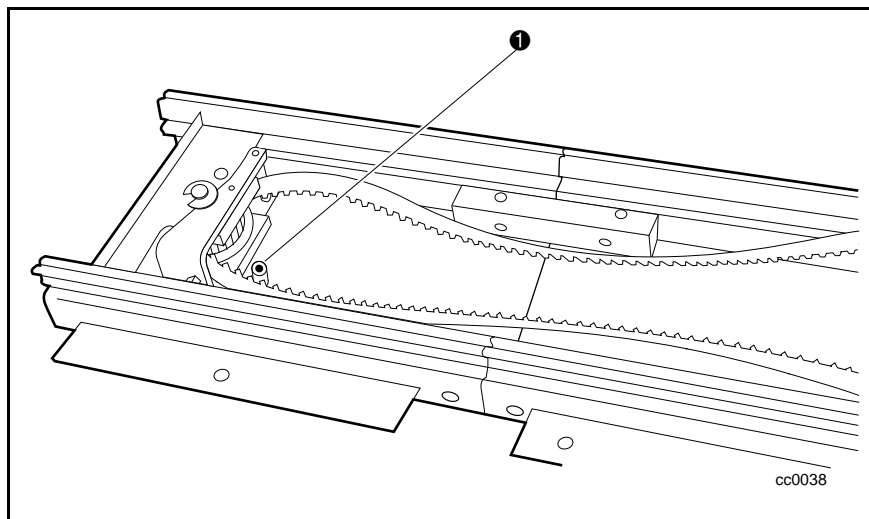

Figure C-19. Threading the belt through the pulleys
2. Thread the belt through the bottom pulley. Note the orientation of the belt teeth and the location stop pin (❶ Figure C-19).